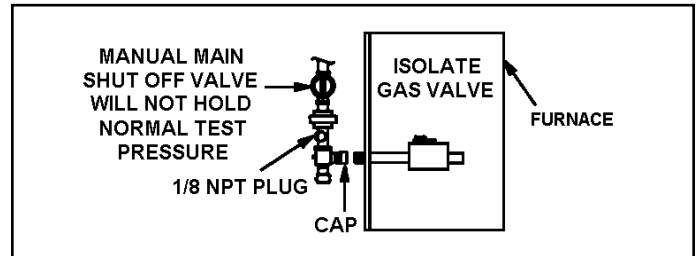

Figure 29.
5. A 1/8" N.P.T. plugged tap or pressure post is located on the gas valve to facilitate test gauge connection. See Figure 29.
When testing pressure of gas lines, gas valve must be disconnected and isolated. See Figure 29. Gas valves can be damaged if subjected to pressures greater than 1/2 psig (3.48 kPa, 14 inches w.c.).